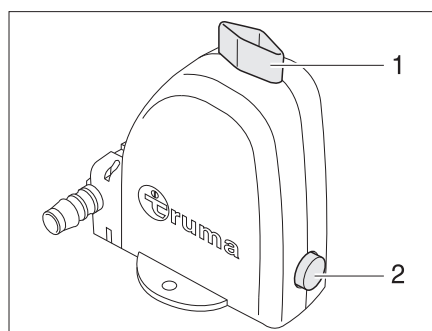

Fig. 65 Safety/drainage valve of the boiler
The boiler is equipped with a safety/drainage valve (Fig. 65). The safety/drainage valve prevents water in the boiler from freezing, when there is frost and the heater is not switched on. The safety/drain valve is installed near the heater or in the floor storage compartments under the table.
- Close the safety/drainage valve. To do so turn the knob (Fig. 65,1) cross-wise to the safety/drainage valve and press in the push button (Fig. 65,2).
- Set the rotary switch (Fig. 642) on the operating unit (Fig. 65) to "O".
- Open the safety/drainage valve. To do so turn the knob (Fig. 65,1) parallel to the safety/drainage valve. The push button (Fig. 65,2) trips. The boiler is drained to the outside by the safety/drainage valve.